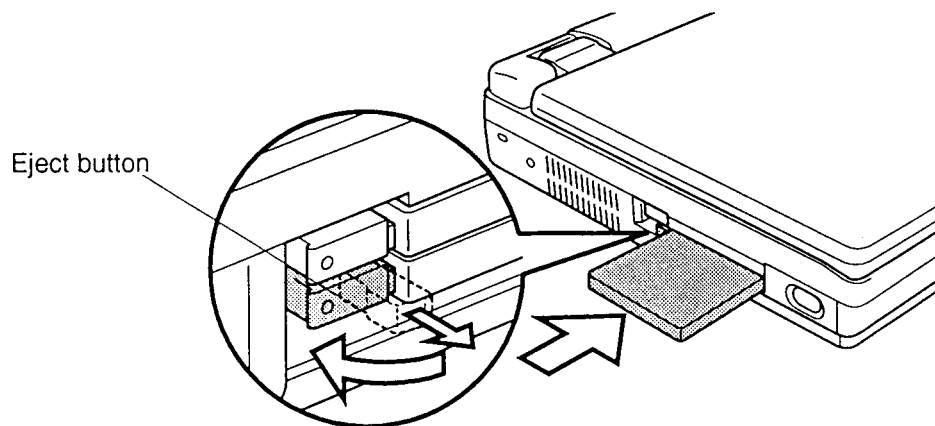

Figure 4-5 Installing the PC card
To install a PC card, follow the steps below and refer to figure 4-5.
2. Insert the PC card as shown in figure 4-5.